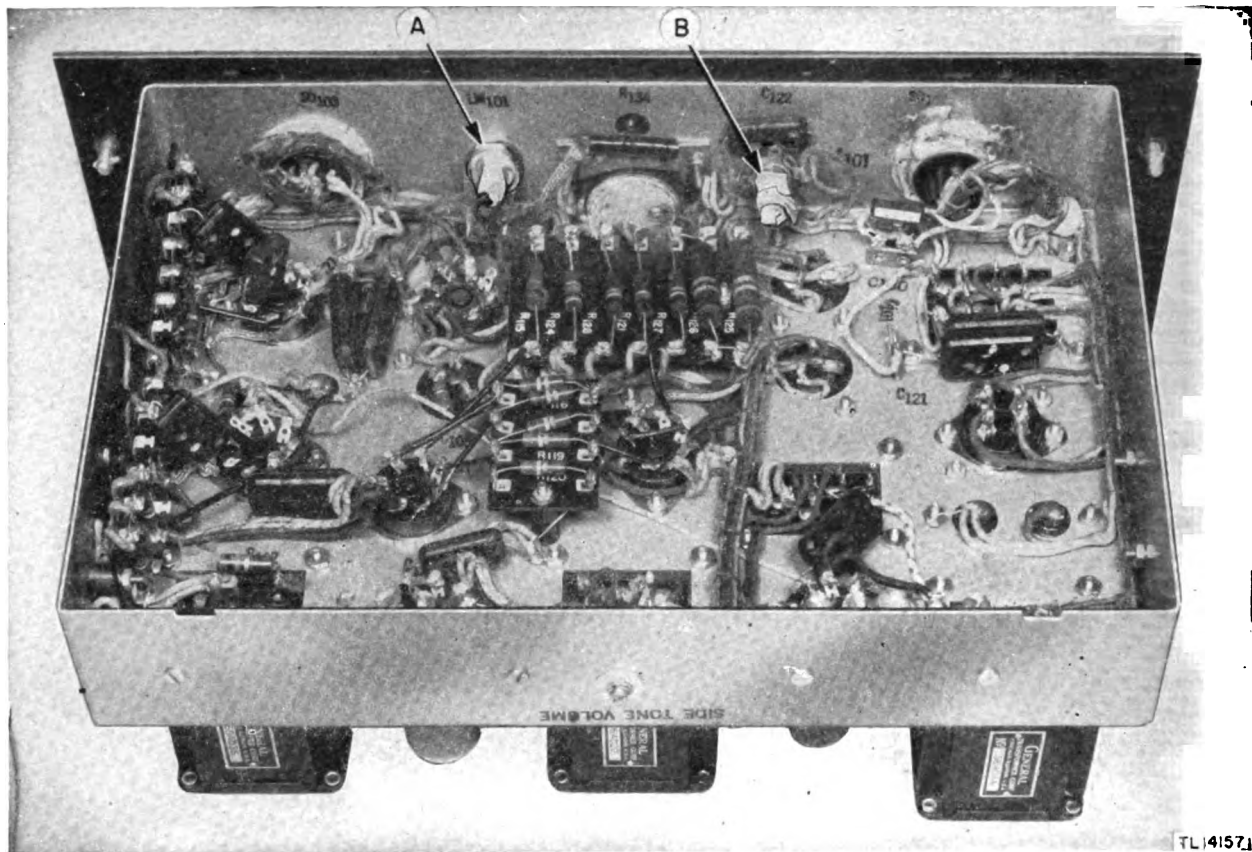

Figure 38. Speech Amplifier BC-614-E—bottom interior view of chassis, showing method of masking.
(5) Lamp socket LM_{101} , item A, figure 38.
(6) Key jack J_{101} , item B, figure 38.
(7) Contacts of jacks J_{102} (not shown in il-